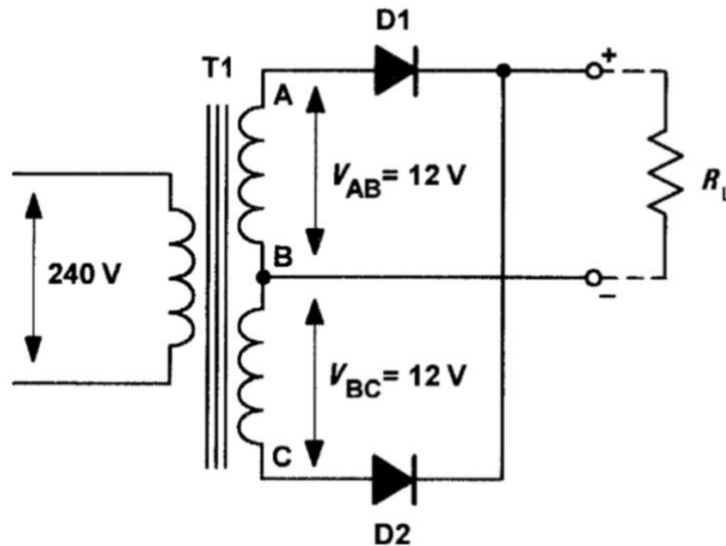
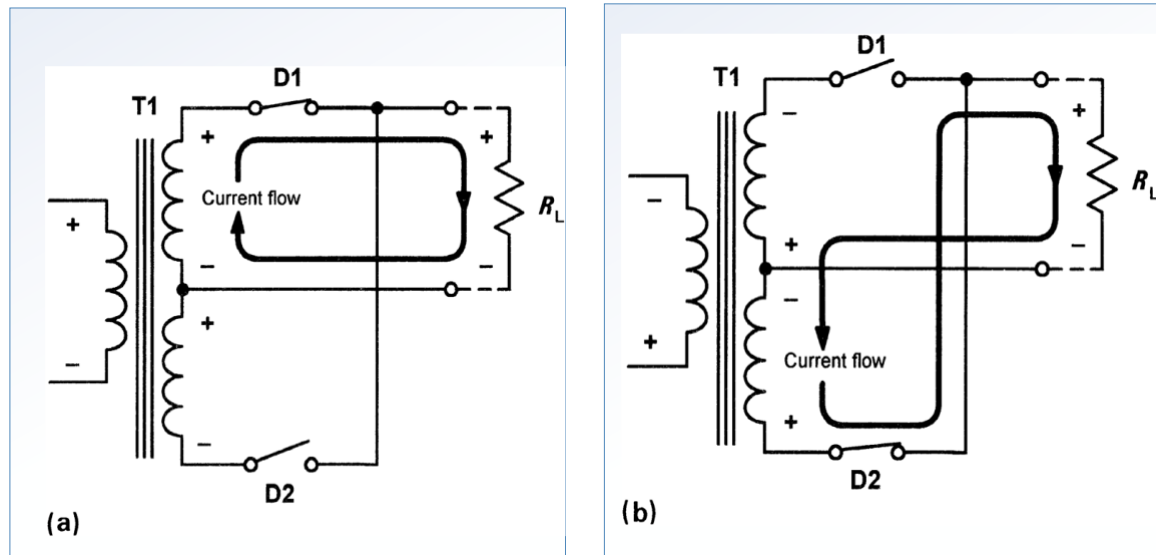

Figure 1.10 Bi-phase rectifier circuit
Figure 1.11 (a) Bi-phase rectifier with D1 conducting and D2 non-conducting
Fig. 1.10 shows a simple bi-phase rectifier circuit.
- Fig. 1.10 shows the bi-phase rectifier circuit with the diodes replaced by switches. In Fig. 1.11 (a) D1 is shown conducting on a positive half-cycle while in Fig. 1.11 (b) D2 is shown conducting.